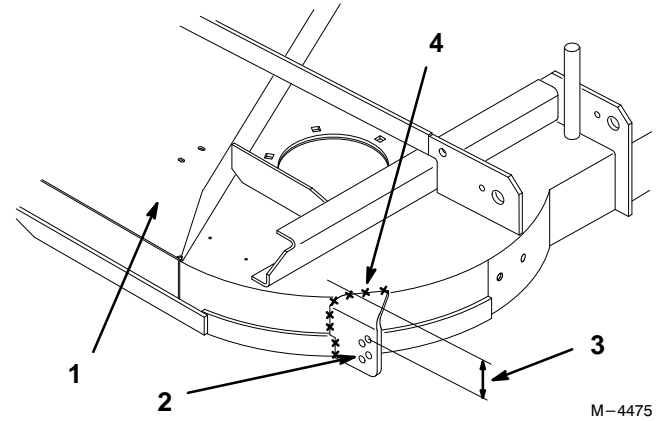

Figure 5
2. Measure 1-5/16 in. down from the top of the deck to the center of top hole in gusset (Fig. 5).
4. Remove paint from areas that will be welded (Fig. 5 and 6).
5. Weld bracket to the mower deck. Weld at a 3° angle (Fig. 5 and 6).